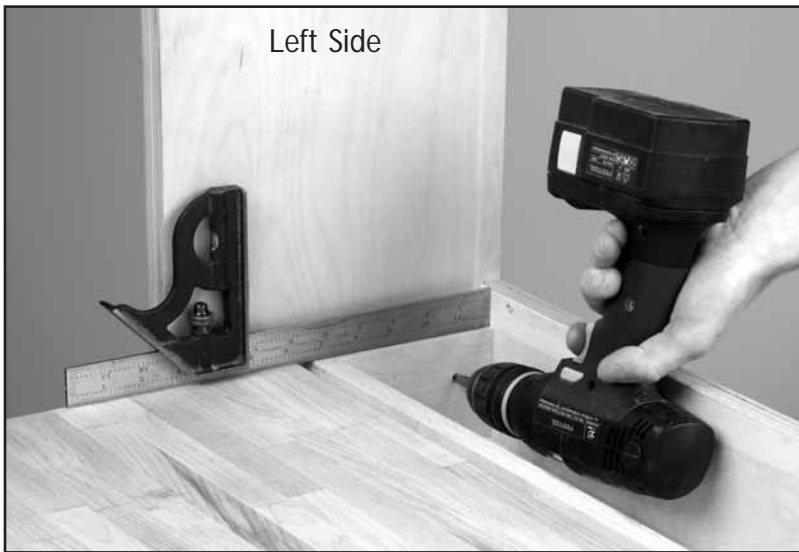

Fig. 5
25. Using the pre-drilled indicator holes as a guide, drill ten 1/8" pilot holes through the Tray Bottom (14) and into the Tray Front (11) and Tray Back (12).
26. Fasten the pieces together with ten 1 1/2" Flathead Wood Screws (23).
27. Glue and screw the Tray Ends (11) in place in similar fashion to complete assembly.
28. Position the tray assembly in place, behind the Workbench Top (1) and flush with the back edges of the Sides (2), using a straight edge to ensure the correct height placement. **See Fig. 5.**
29. Once it is in place, drill 1/8" pilot holes and screw the tray assembly to the Sides (2) with two 1 1/2" Flathead Wood Screws (23) per side.